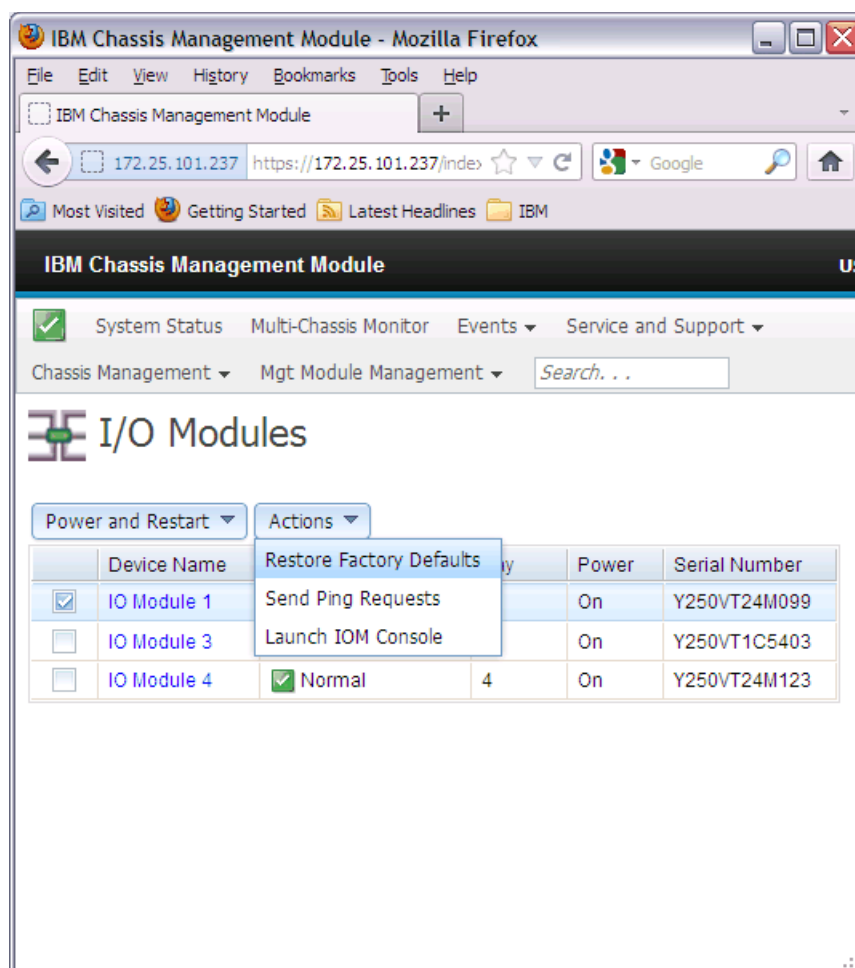

Figure 8-11 I/O Module 1 restore factory defaults
- As shown in Figure 8-11, select the I/O module that needs to be reset to factory defaults, and click **Actions** → **Restore Factory Defaults**.